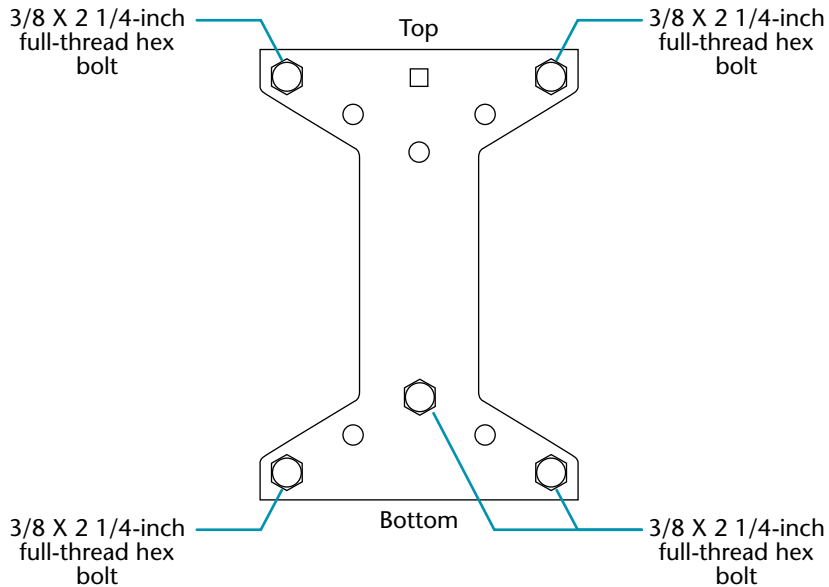

Figure 4-47. Installing the mounting lag bolts
9. Install the mast onto the mounting surface using a 2 1/4 inch X 3/8-16 machine screw (see figure 4-47). Tighten the screw enough to secure the base plate, but leave it loose enough to enable you to adjust the base plate.